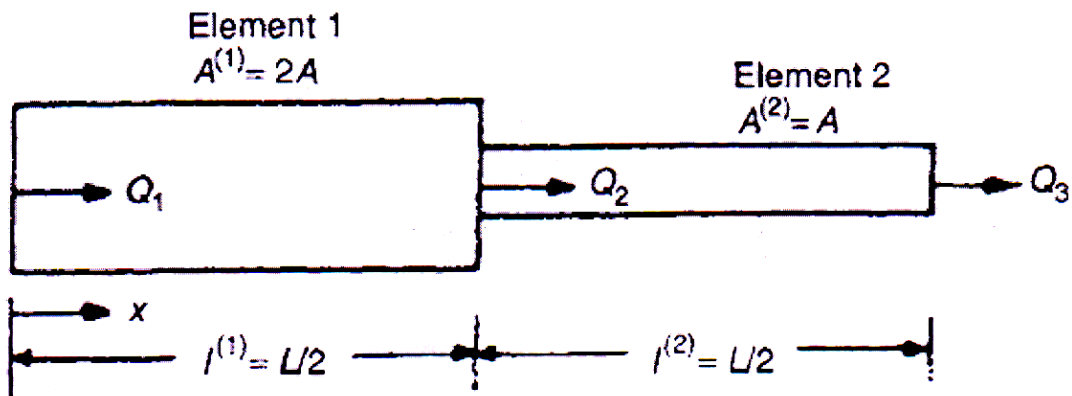

Fig. 5
- b) Find the natural frequencies of longitudinal vibration of the unconstrained stepped bar as shown in Figure 5. [10]